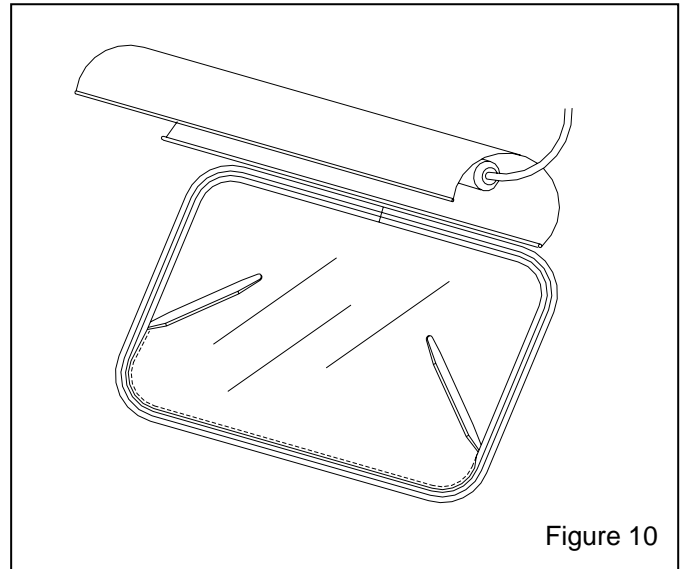

Figure 10
**6.3.7.** Use a nylon window stick, Stock No. 22933, as shown in Figure 10, and work the window channel lip over the glass. When this is done, the window should be entirely within the molding's window channel.